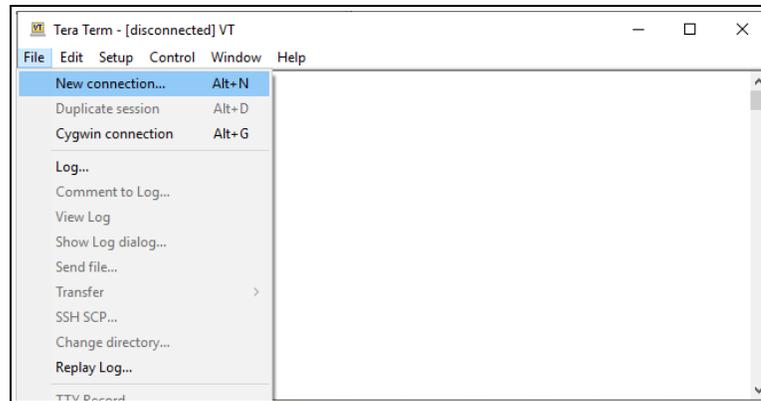

Figure 56: File menu > New Connection
2. In **Tera Term**, click the **File** menu and select **New Connection**. Figure 56